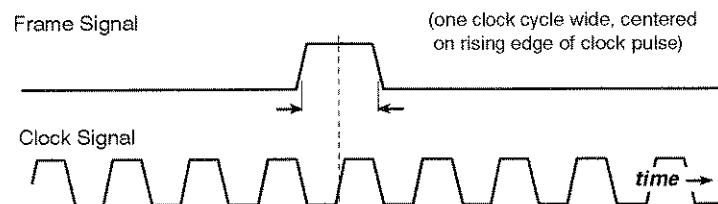

Fig. 11 Clock and frame signal timing in two wire mode.
- **Two Wire Mode** In this mode, the TSG 1001 accepts information from both the Clock and Frame inputs. The clock signal is used as the system clock, and the TSG resets to the top of the video frame whenever a positive pulse is received at the Frame input. The frame signal must also be 10KH differential ECL. The range of permissible frequencies for the external clock in this mode is 13.5 to 78 MHz. The correct timing relationship for the clock and frame signals is shown in Fig. 11.